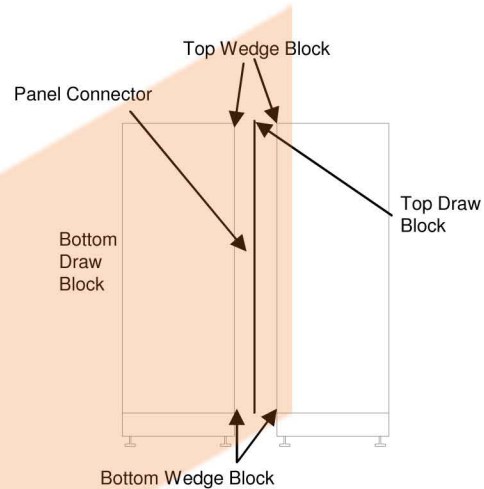

FIGURE 6
- A.** Equal height panels in straight line. See figure 6.